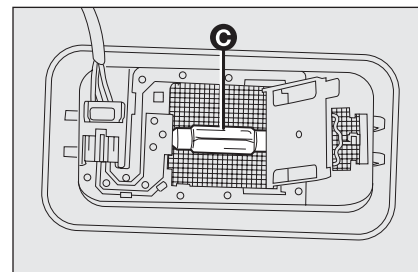

fig. 38
- ☐ replace bulb **C-fig. 38** releasing it from the side contacts. Then, insert the new bulb making sure it is correctly clamped between the contacts;